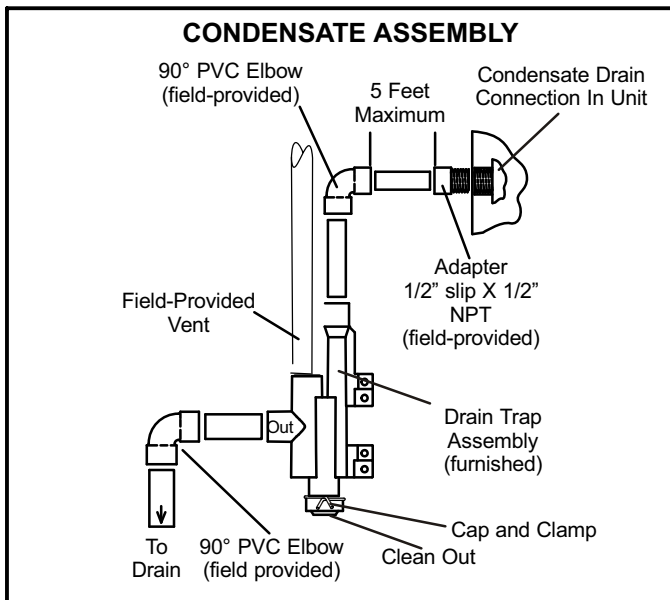

FIGURE 41
- 3 - Install drain trap using appropriate PVC fittings, glue all joints. Glue the provided drain trap as shown in figure 41. Route the condensate line to an open drain.